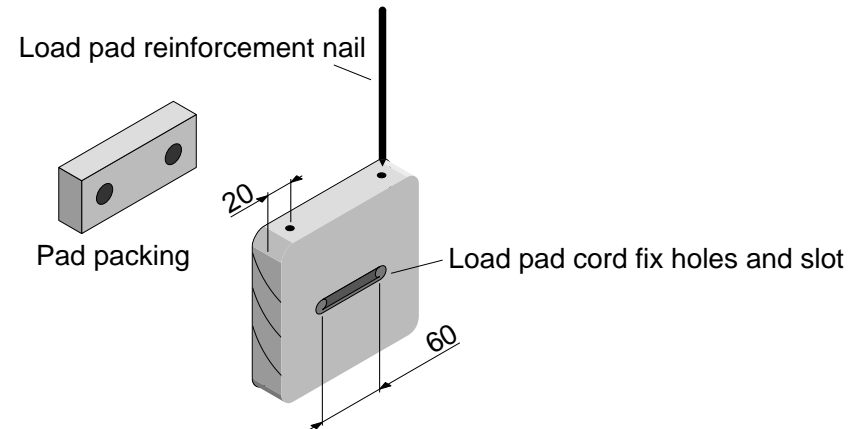

Figure 10: load pad reinforcement by nails across grain.
- 7) Make the pad packing from pieces of wood 25x50x100 mm. Drill holes 60 mm apart to match the holes in the pads as shown in Figure 10.